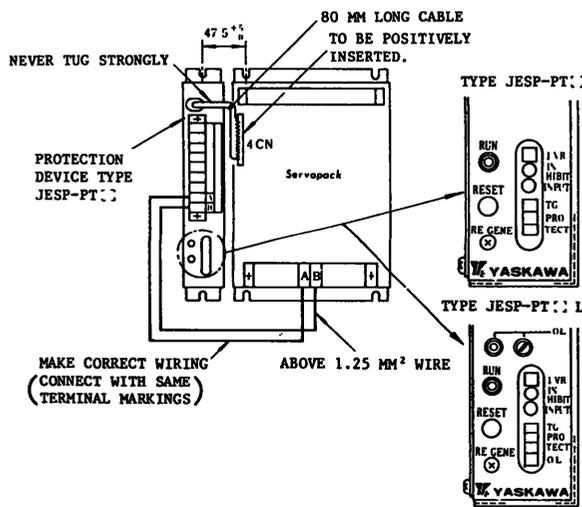

Fig. 17 Mounting and Connection of Servopack and Protection Device
- Mount it on Servopack as shown in Fig. 17.